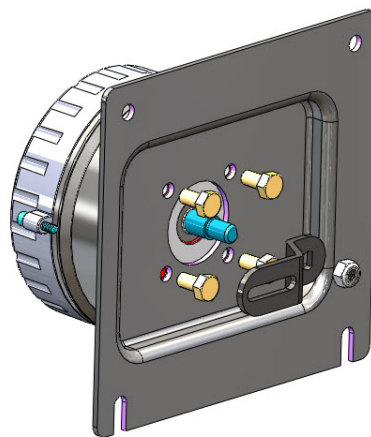

Figure 7: MaxFlo Follower Arm
- 2 Attach the mounting plate to the positioner using 4 screws. (Figure 7)